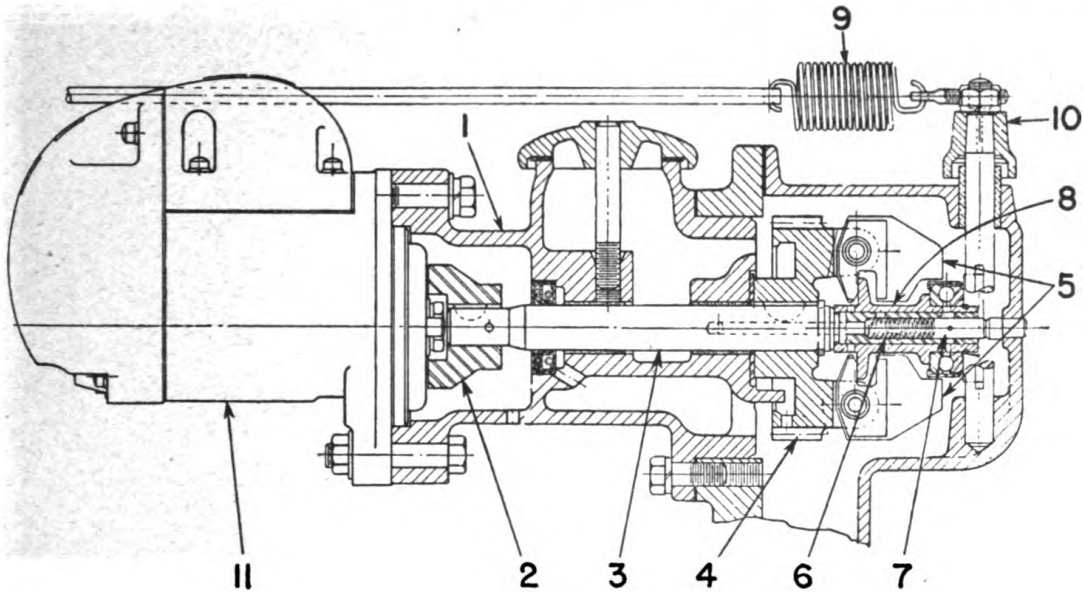

Fig. 24. Governor and Magneto Assembly
3. Remove magneto No. 11 Fig. 24 from magneto bracket No. 1 Fig. 24.